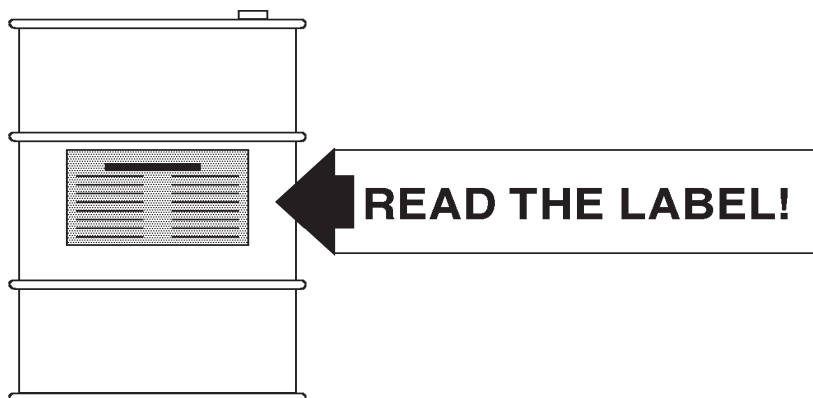

Figure B-16: Chemical Container Labels
5. Refer to Figure B-16 for maximum pressure at which ELLS system should shut down appropriate functions for the particular crane model being tested.